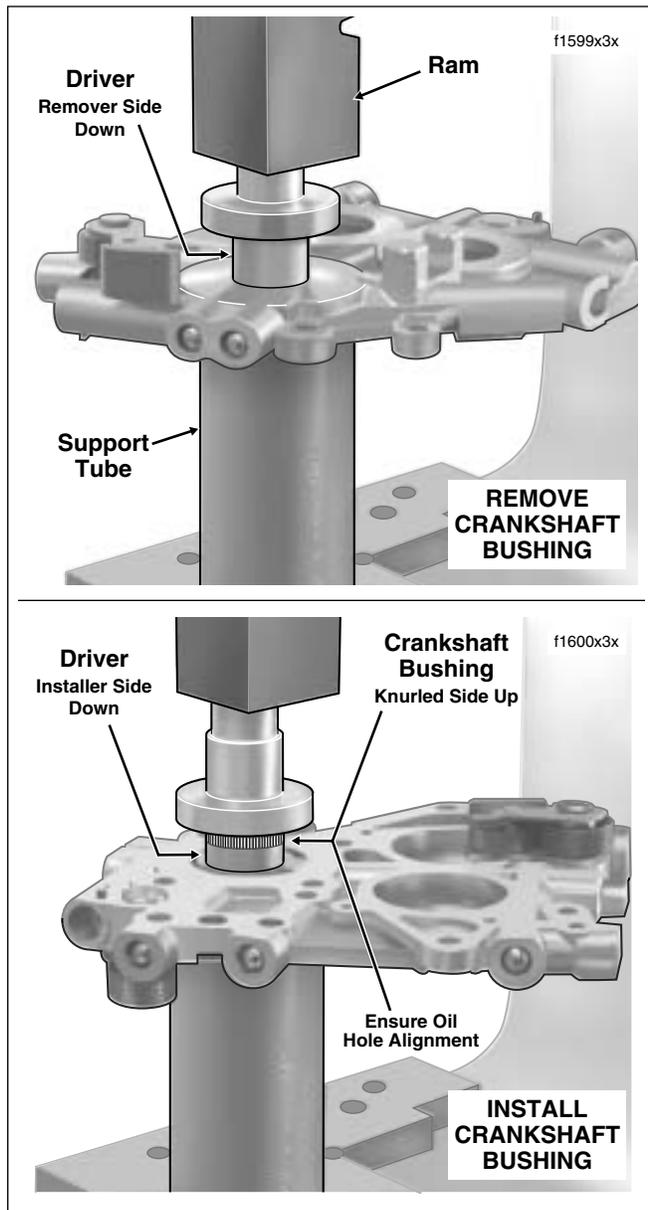

Figure 3-102. Remove/Install Crankshaft Bushing in Cam Support Plate
4. Insert remover side of driver into crankshaft bore so that shoulder on tool is seated on edge of bushing. See upper frame of Figure 3-102.
6. Insert installer side of driver into bushing. See lower frame of Figure 3-102.